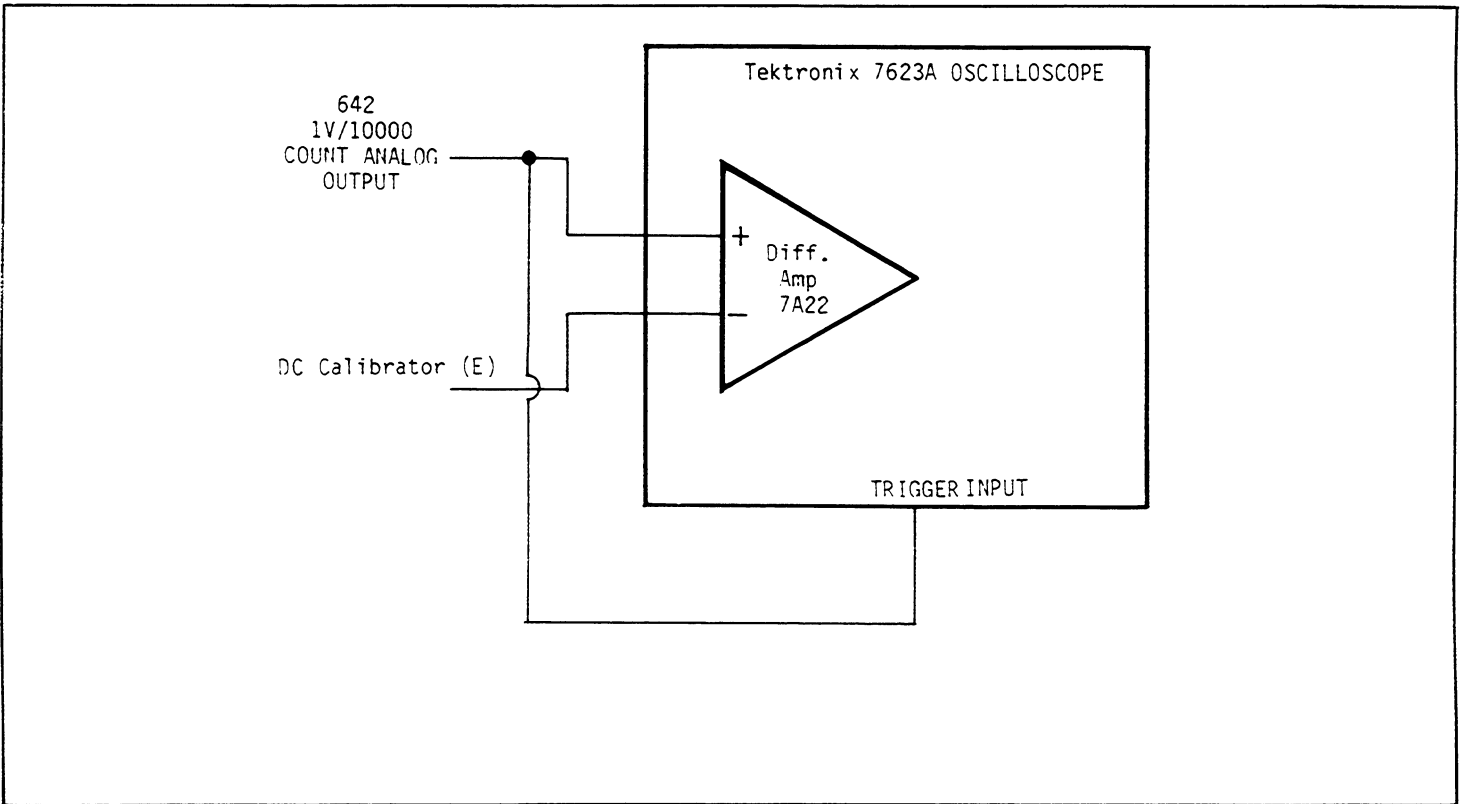

FIGURE 3-2. Using a Scope with a Differential Amplifier to Measure 1% Settling Time
- Connect the Oscilloscope (K) to the 1V/10000 COUNT ANALOG OUTPUT of the 642 and to the DC Calibrator (E) as shown in Figure 3-2.